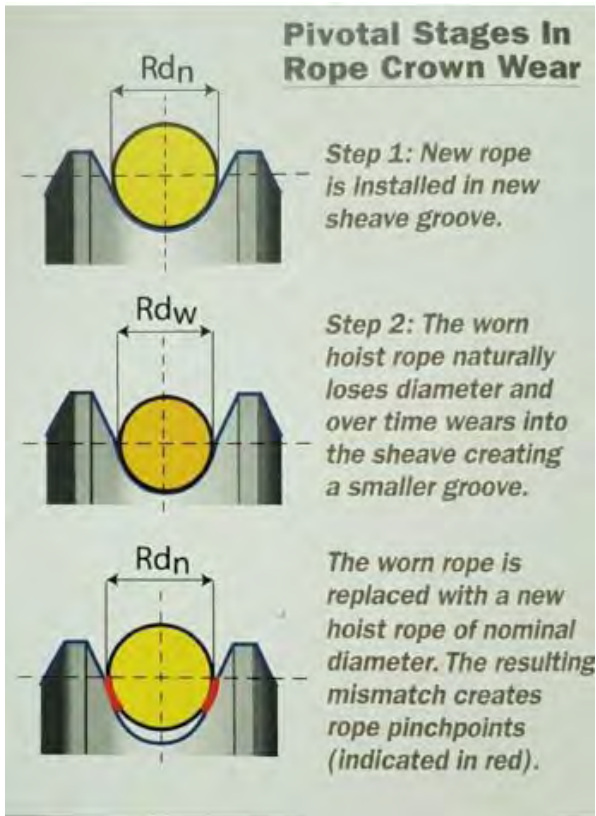

Figure 1: From the Brugg Lifting manual
- ◆ Hoist ropes and sheaves are in contact with each other more than any other components in the elevator system and, thus, have a great effect on each other. Over time, friction between rope and sheave gradually reduces the ropes' diameter. This reduction allows the worn hoist ropes to sit more deeply into the sheave grooves and creates a new groove within the original groove (Figure 1). When this happens, a replacement rope in the worn sheave groove creates pinch points that reduce the lifespan of the new rope. Because of this, many manufacturers and experts recommend that the ropes and sheaves be replaced at the same time.